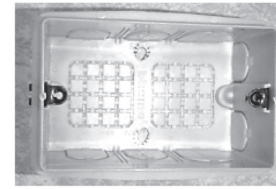

Fig.1
Figures 1, 2 and 3 (overleaf) illustrate examples of the G.P.I. boxes with which ETT/3 is compatible. These provide threaded fixing holes which are generally 6 UNC at 83.5mm (3 1/4") centres. Figure 4 illustrates the backbox of the rectangular call point.
- A single gang G.P.I. box as in Figure 1 if the box is mounted with the fixing holes in the vertical plane.